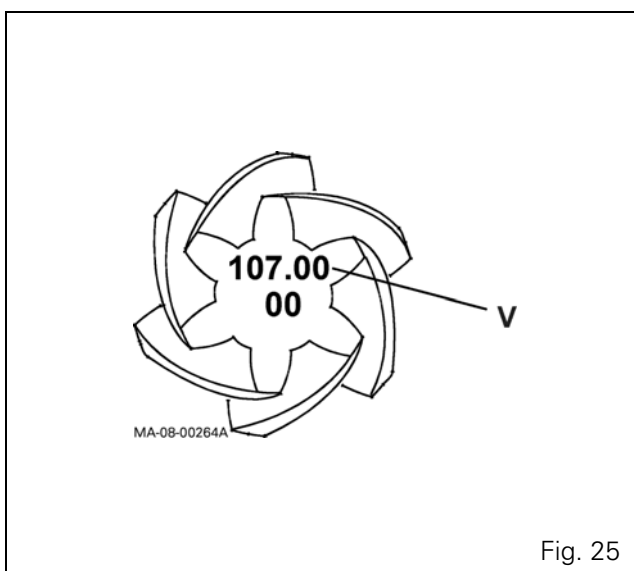

Fig. 25
- 30.** To determine the necessary thickness S between the pinion and the bearing, subtract the value V engraved on the pinion head (V = specified taper distance) from the measured value B (Fig. 25):